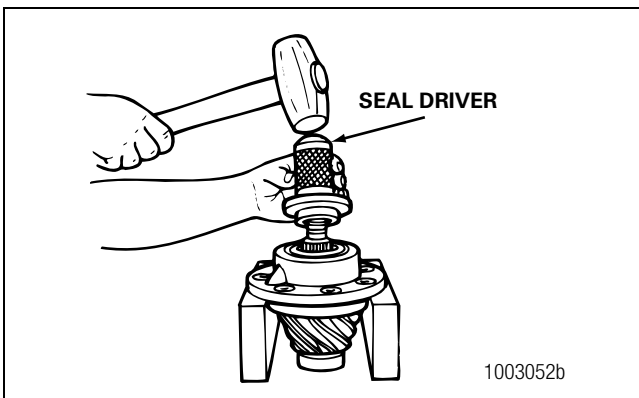

Figure 5.29
- **If a press is not available:** Use a mallet and the sleeve or driver to install the seal. Figure 5.29.